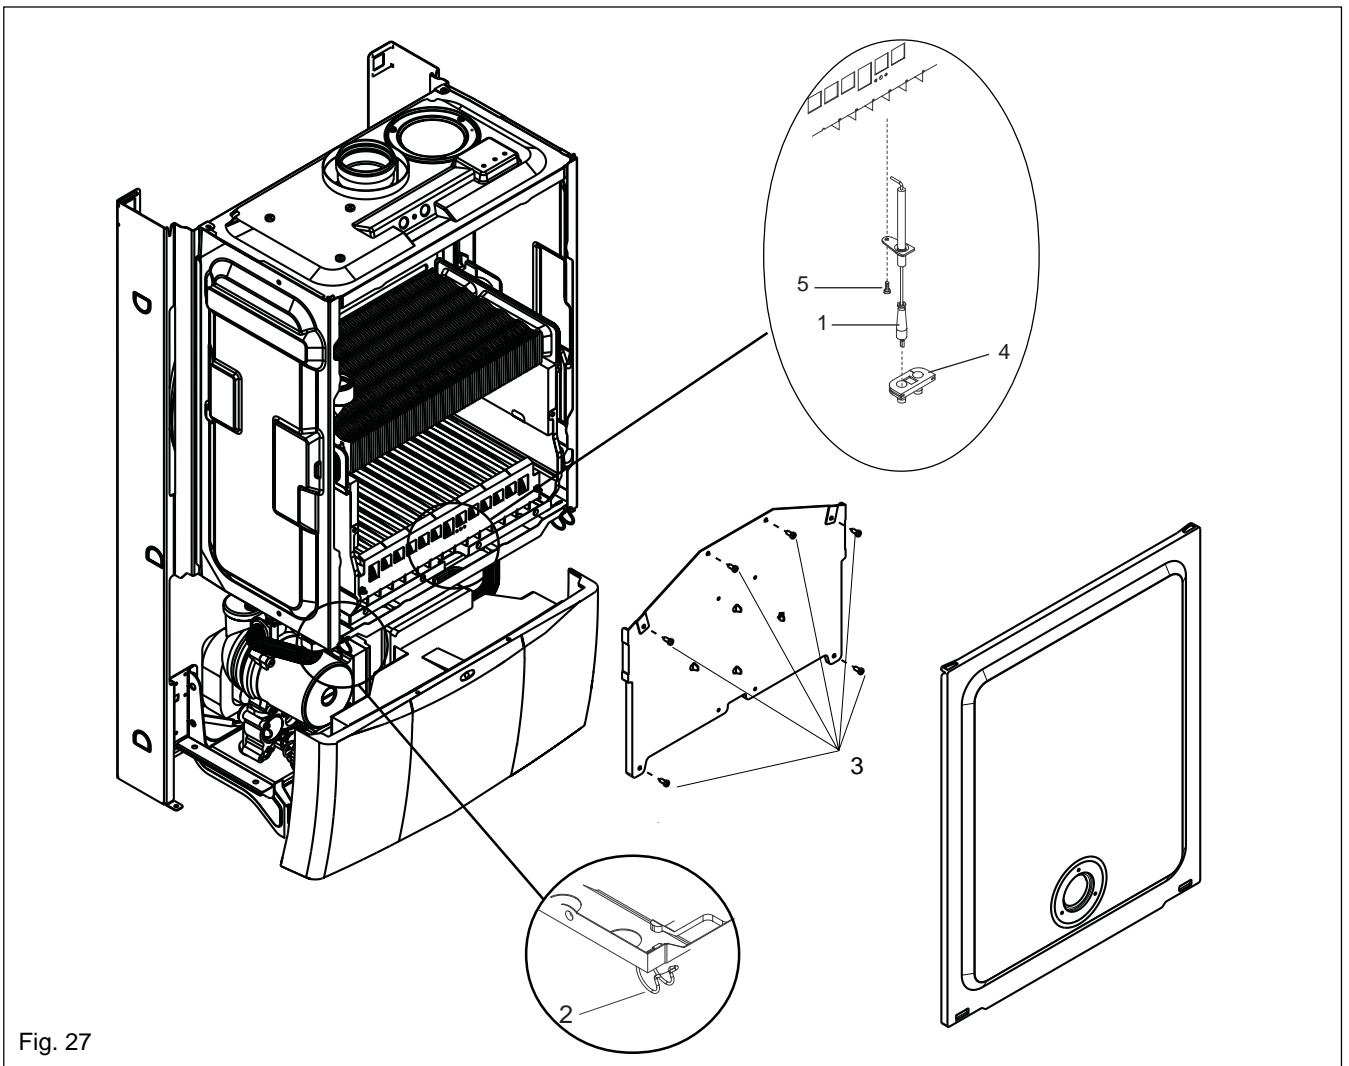

Fig. 27
**Fig. 27:** locate and remove the four screws which secure the burner in position (1), gently ease the burner out of its location. Once the burner has been removed, the electrode retaining screw can be removed. Locate the burner injectors (2) and remove (if necessary). Replace in the reverse order. Please note, the injector sealing washers (3) must be replaced if the injectors have been removed, ensure all seals are in good condition, taking care to ensure they are replaced correctly. Replace in the reverse order.
**6.16 FLUE FAN (see fig. 27 & 28)**
**Fig. 27:** unclip and remove the air chamber cover, gently pull the cover towards you before lifting and disengaging (2). Locate and remove the six screws that secure the front combustion cover, then remove the cover (3).